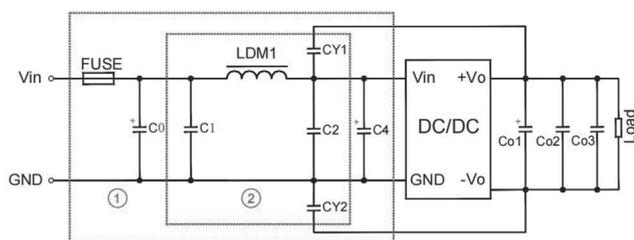

Figure 3
Note: We use part ① in fig. 3 for immunity tests and part ② for emissions test. Selecting based on needs.